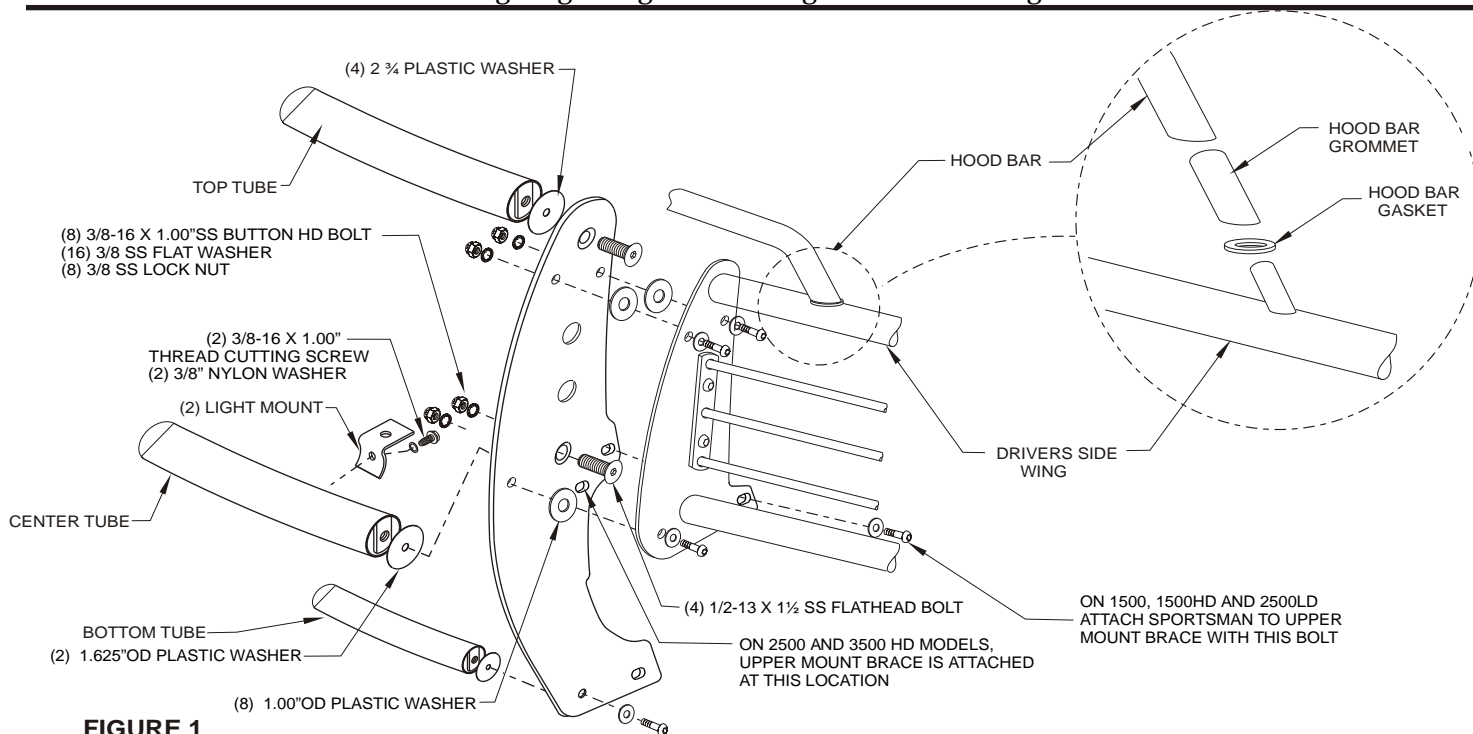

FIGURE 1
- STEP 12. Install hood bar gasket and grommet on each wing assembly. Place gasket over the small tube and slide grommet until flush with gasket. See Figure 1.
- STEP 13. Determine passenger and driver side wing assembly. See figure 1. Install driver side wing assembly using (4) 3/8-16 x 1.00" stainless steel button head cap bolts, (8) 3/8" stainless steel flat washers, (4) 3/8" stainless steel lock nuts and (4) 1.00" OD plastic washers. Hand tighten.
- STEP 14. Install hood bar over grommet on driver wing. See figure 1. Note: Bend should face forward.